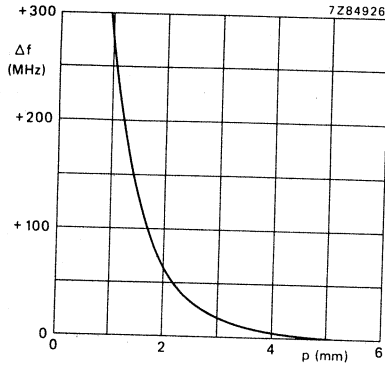

Fig. 4 Tuning of the oscillator as a function of the air gap between tuning screw and resonator: $f = f_0 + \Delta f$.
4. A small screw on the top of the oscillator allows a limited range of tuning. Turning the screw clockwise, starting from the flush position of the internal pin ($\Delta f = 0$), increases the frequency. When tuning up to 0,5% (i.e. approx. $\Delta f = +50$ MHz), the stability of the oscillator remains unaffected; above that value the df/dT of the oscillator gradually increases due to Q-degradation of the dielectric resonator. A typical tuning curve is given in Fig. 4.